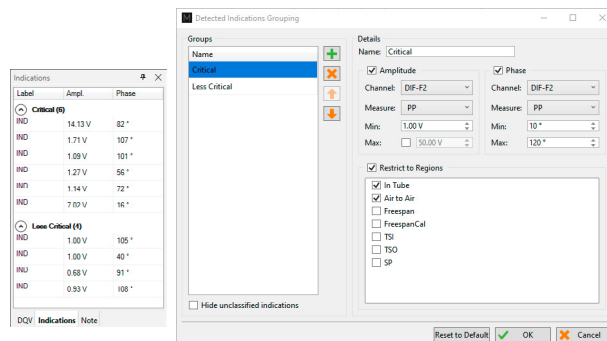

Figure 7: Grouping tool enabling quick identification of critical defects.
- **Defect grouping:** Identifies the most relevant indications to report based on user-defined criteria as shown in Figure 7. Additionally, users can hide “unclassified” indications to focus on specific groups.